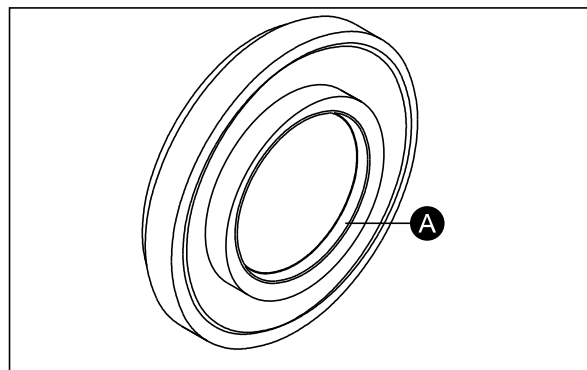

Fig. 3.180
- Damage to the oil seal lip (A) may result in leakage of oil. Inspect the oilseals for the damage of lip and always replace oilseals with the new ones during reassembly. (Fig. 3.180)